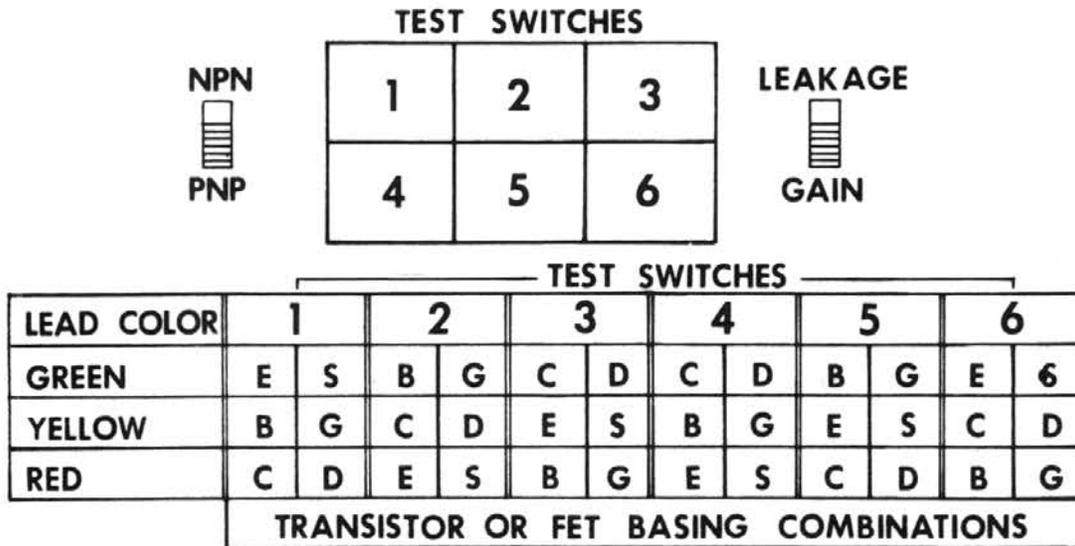

Fig. 5 Transistor Basing Combinations
① **POLARITY SWITCH:** This slide switch selects the polarity of the test voltages applied to the device under test. Normal operating procedure is to set the switch to the NPN position for NPN transistors or N channel FET's, and to the PNP position for PNP transistors or P channel FET's. However, if the correct polarity is not known, no damage will result to the device under test if the switch is in the wrong position.
② **FUNCTION SWITCH:** This slide switch selects either the gain or leakage tests. The gain test may be performed with the transistor in or out of circuit, but the leakage test may be performed out of circuit only.
③ **TEST SWITCHES:** The six pushbutton switches on the keyboard apply the test voltage to the elements of the device under test. The table in Fig. 5 shows the lead coding of the 6 pushbuttons.
2. Refer to the table in Fig. 5 to determine the base lead, and connect a 10K resistor in series with it.
4. Refer to the table in Fig. 5 to determine the basing of the transistor.